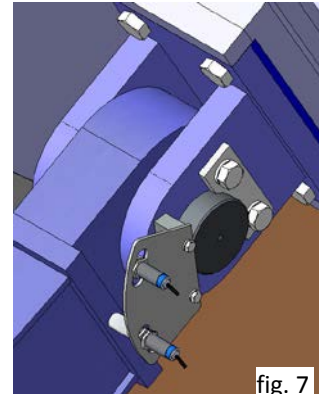

fig. 7
- Check the correct operation of all elements which make up the **CT** penstock, carrying out opening and closing operations whilst empty using the hydraulic cylinders. These operations are also used to regulate the limit switches, positioners, etc. (fig. 7).